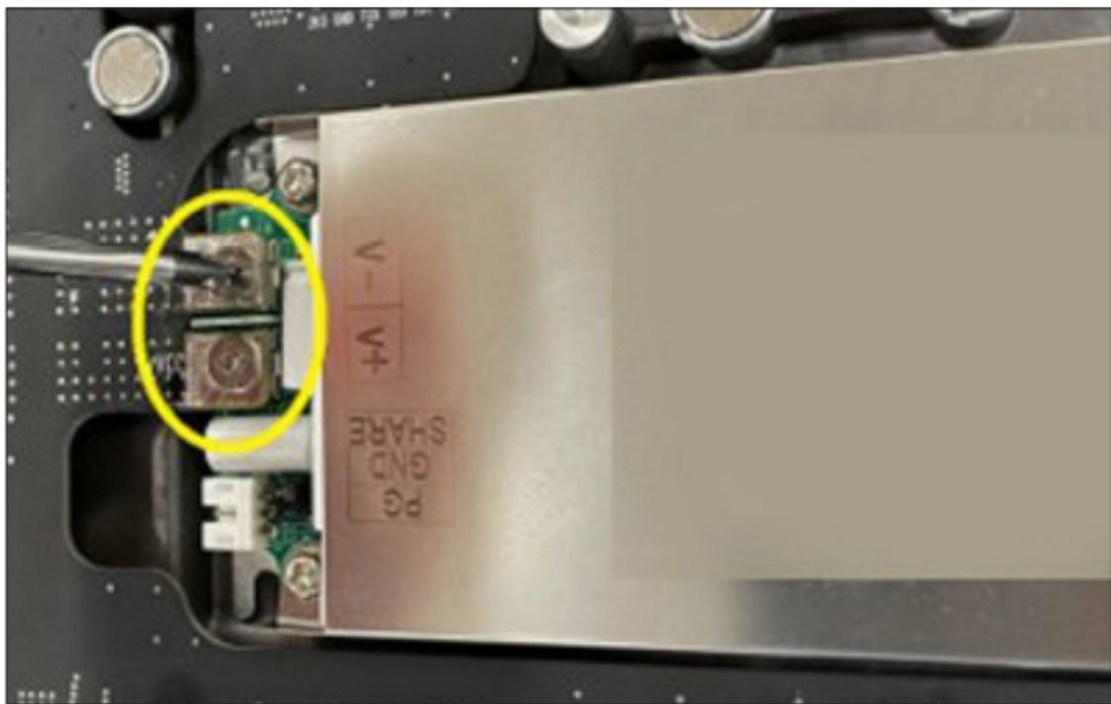

Figure 10: Remove Screws of the DC Power Connection
4. Remove the two screws that secure the DC power connection to the hub board. Refer to Figure 10.